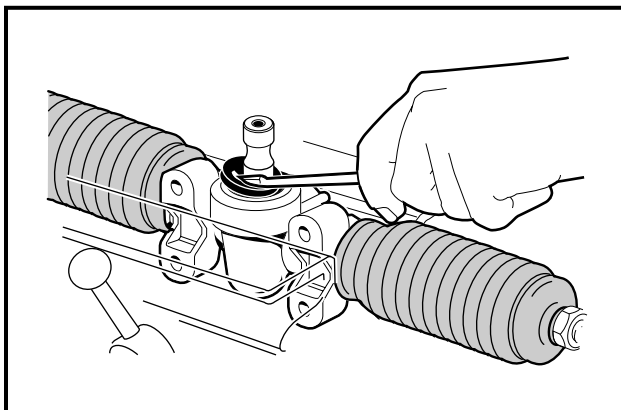

Figure 7-14 Remove Dust Seal
7. Remove the dust seal (**Figure 7-14, Page 7-10**).